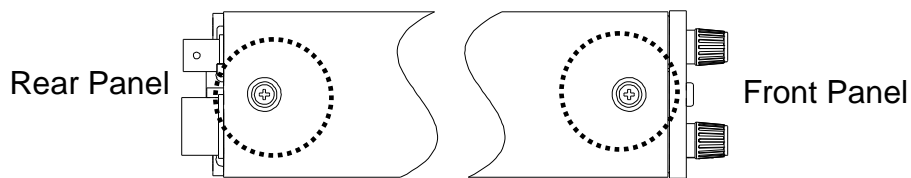

Figure.7-6
2. Remove the cover using two screws (M3) on the top face (Figure 7-6).